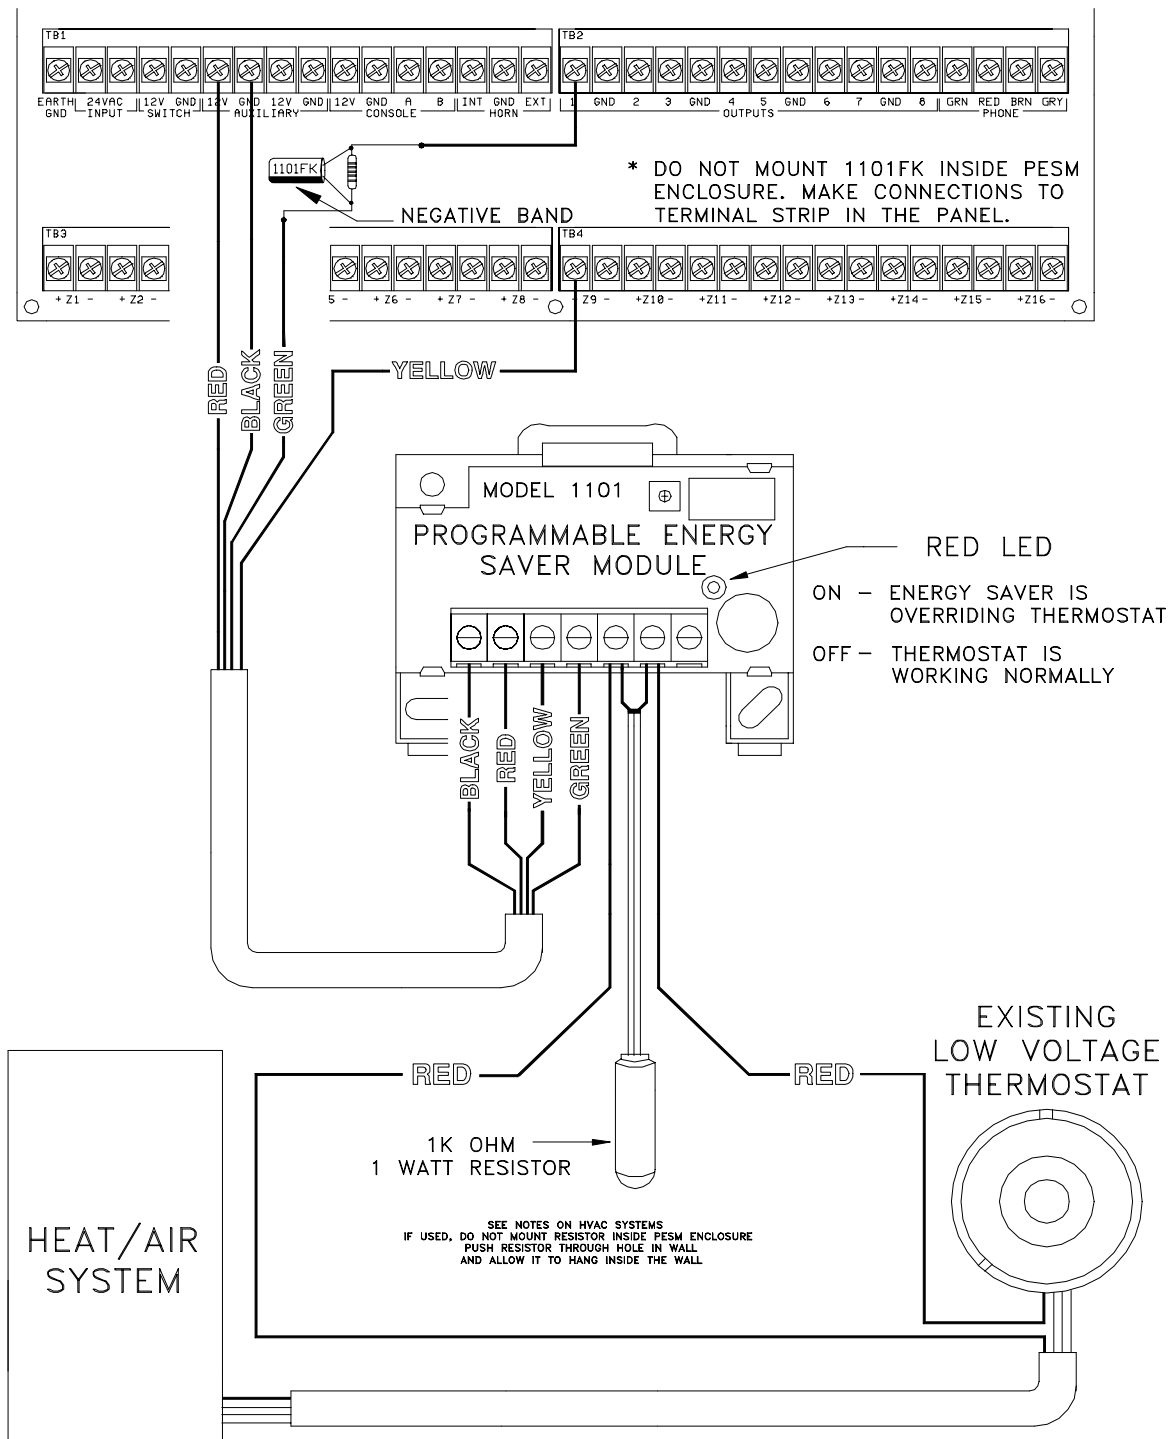

FIGURE 9
2. Run a 4 conductor wire from OmniPro controller to each Model 1101. Connect as shown in FIGURE 9. Be sure to install the 1101FK (included with PESM) as shown. The 1101FK reduces self-heating of the PESM relay.
The PESM is provided with an encapsulated 1K ohm resistor attached to a length of wire. In mechanical thermostats, the resistor allows enough current to keep the air conditioning mode "anticipator" in the thermostat warm. This decreases the response time for the air conditioner to come on when the Energy Saver is turned off. The resistor should be installed as shown in Figure 9.